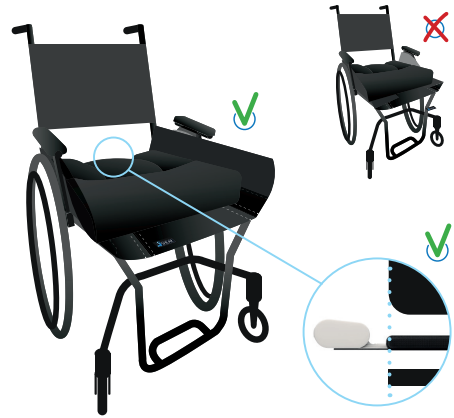

Figure 14
4. Reinstall the seat cushion on top of the iShear, ensuring the lateral flaps are positioned between the sides of the wheelchair cushion and the side guards of the wheelchair. Align the rear end of the wheelchair seat with the rear end of the iShear mat (see Figure 14).